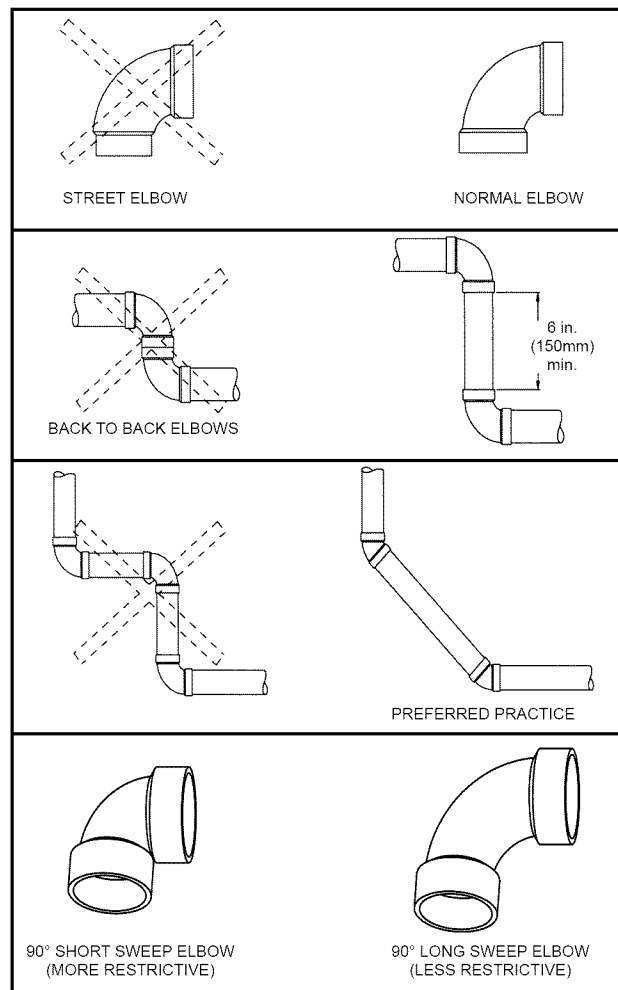
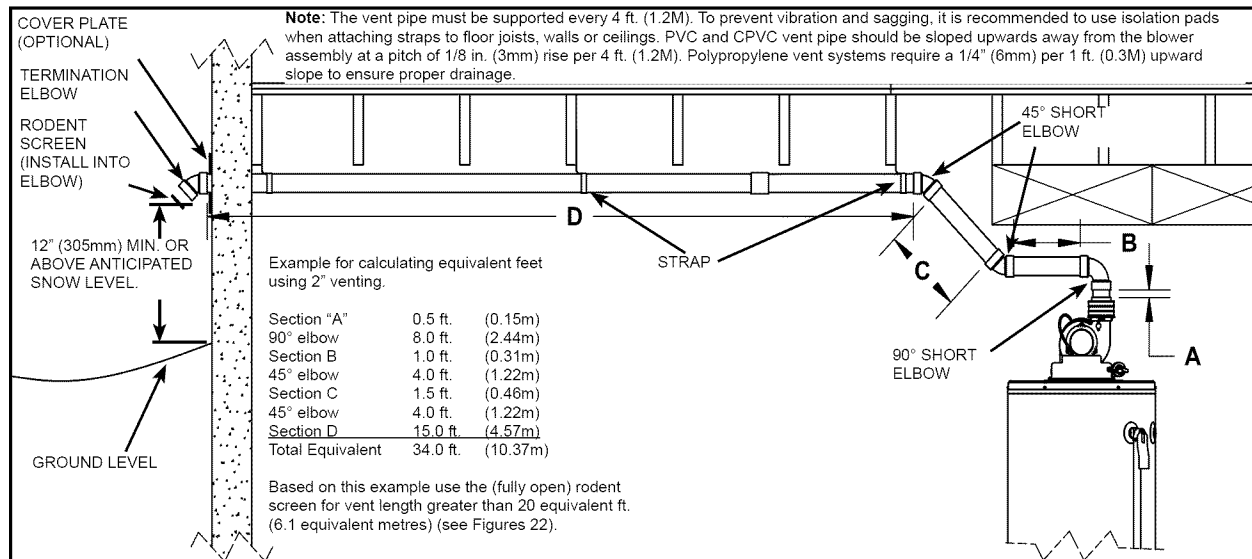

Figure 20
Figure 24
NOTE: The information provided in Figures 20 and 23 is intended as a guideline for good vent installation practices only and is not intended to restrict venting options beyond those restrictions established by the current edition of the “**National Fuel Gas Code, ANSI Z223.1/NFPA 54**” or any applicable local and state codes.
Figure 20 shows examples of good venting assembly practice. Table 1 lists the allowable vent materials and sizing information. Figure 24 shows the general venting layout while Figures 30-32 show various end termination details and clearances. Connection of the venting piping to the blower is shown in Figures 33-36.
- Refer to Figure 24 and Table 1 for vent pipe materials and sizing. Examples of the vent terminations are shown in Figures 30 and 31. If the installation requires a vent riser, suitable drainage must be provided to ensure condensation does not accumulate. Termination through a roof is shown Figure 32.
Installed into the vent termination elbow, the vent screen is required to keep foreign objects, rodents and small birds from entering the venting system. These screens have been sized to ensure maximum energy efficiency of the vent system based on the "equivalent length" of the vent piping. **CHOOSE ONLY the ONE SCREEN THAT MATCHES YOUR VENTING CONFIGURATION** (see Figure 22). How to determine the "equivalent length" is shown in Figure 24 and in Table 1.
- Use long sweep elbows wherever possible. Closely-coupled elbows and short radius elbows can reduce the venting capacity (see Figure 20).
5. Calculate "Equivalent Vent Length" before starting. Do not exceed the values shown in Table 1. An example of how this length is determined is shown in Figure 24. The value from your calculations should also be used to determine which rodent screen to install into the vent termination elbow.